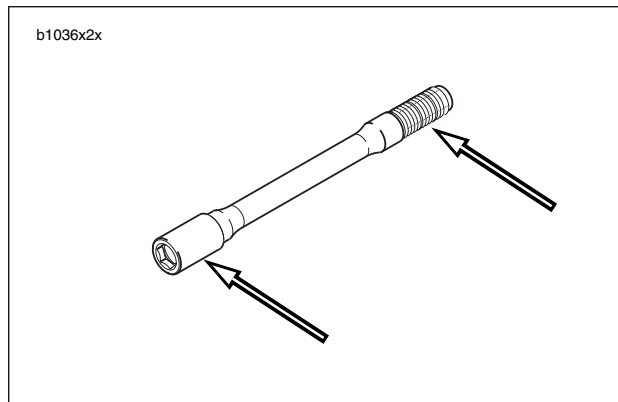

Figure 2-24. Anti-Seize Lubricant Location
4. See Figure 2-24. Coat the axle with ANTI-SEIZE LUBRICANT.